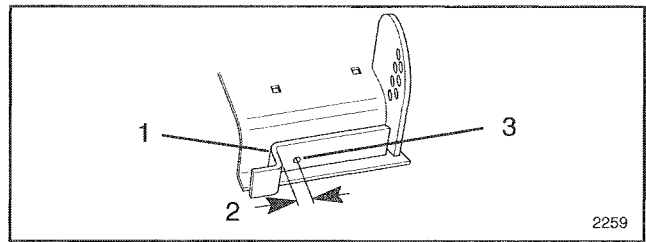

Figure 4
1. Mark and drill a 3/8" dia. hole on center line, 1/2" in back of deflector stop, (Fig. 4).